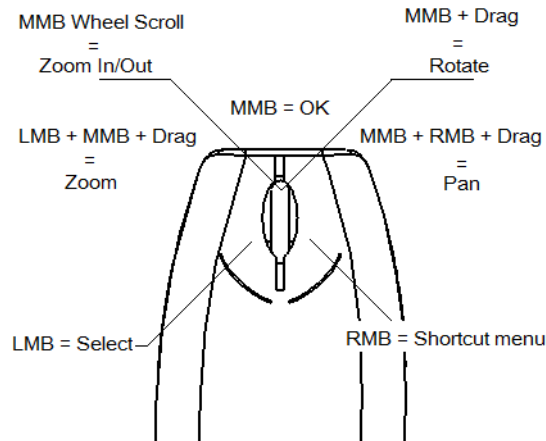

Figure 1-10 Functions of the mouse buttons
3. Press and hold the middle and the right mouse buttons to invoke the **Pan** tool. Next, drag the mouse to pan the model. You can also invoke the **Pan** tool by first pressing and holding the SHIFT key and then the middle mouse button. Figure 1-10 shows the use of a three button mouse in performing the pan functions.
4. Press and hold the middle mouse button to invoke the **Rotate** tool. Next, drag the mouse to dynamically rotate the view of the model in the geometry area and view it from different directions. Figure 1-10 shows the use of the three button mouse in performing the rotate operation.
5. Press and hold the CTRL key and then the middle mouse button to invoke the **Zoom** tool. Alternatively, press and hold the left mouse button and then the middle mouse button to invoke the **Zoom** tool. Next, drag the mouse dynamically to zoom in or out the model in the geometry area. Figure 1-10 shows the use of the three mouse buttons in performing the zoom functions.